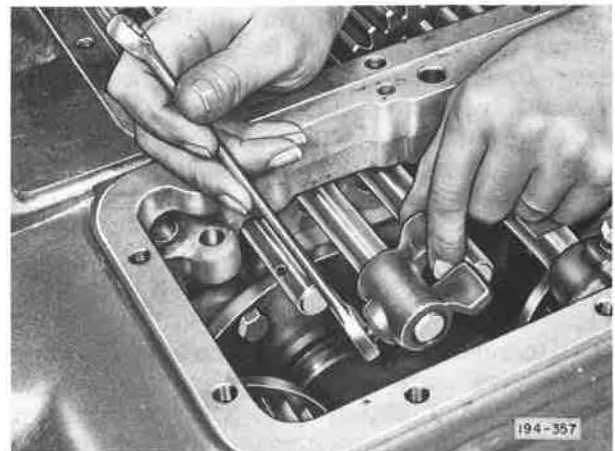

Figure 5-122. Removing Shift Rail Shifter Set Screws
3. Remove set screws from shifter rail shifters, then remove shifters. See Figure 5-122.